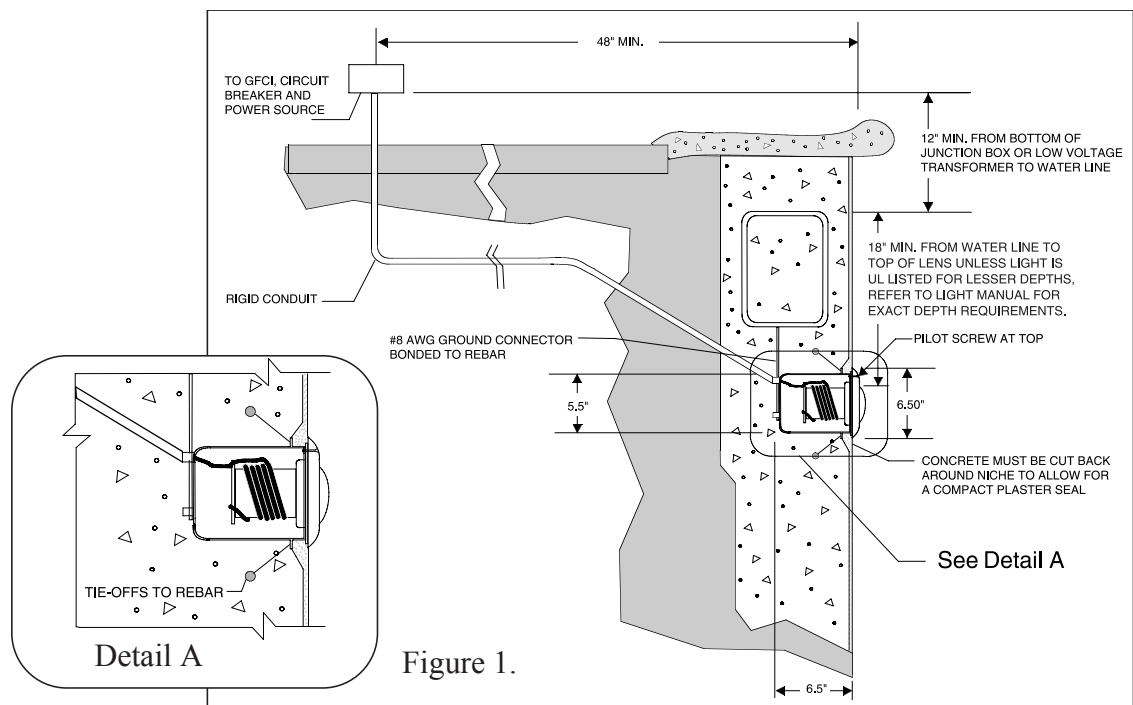

Figure 1.
- The junction box or the low voltage transformer is located at least 12 inches above water level and at least 48 inches from the edge of the pool, see Figure 1 below.
- The light fixture and all metal items within five (5) feet of the pool must be properly electrically bonded.
- The niche must be properly installed so that the top edge of the Underwater Light's lens is at least 18 inches below the surface of the water in the pool, see Figure 1. This requirement may be less than 18" if the fixture is installed in an area of the swimming pool that is not used for swimming and the lens is adequately guarded to keep any person from coming in contact with the lens. Consult your local codes and ordinances and the National Electrical Code (NEC).
The niche is properly electrically bonded and grounded using the NO. 8 AWG ground connector located at the rear of the niche, see Figure 1.
7. If pool surface is to be plastered, you must allow proper concrete cut-back for plaster thickness. Finished concrete surface must be cut-back behind the niche flange, see Detail A of Figure 1. Finished area surrounding niche must be flat and flush with the front face of the niche. This ensures a snug fit between light and wall.